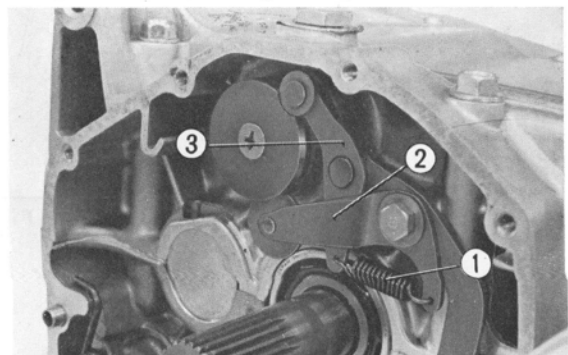

Fig. 132 ① Shift drum stopper spring
- Attach the shift drum stopper spring to the drum stopper and to the drum neutral stopper as shown in Fig. 132, then tighten the drum stop bolt and neutral stop bolt. Also tighten the bearing set plate together.